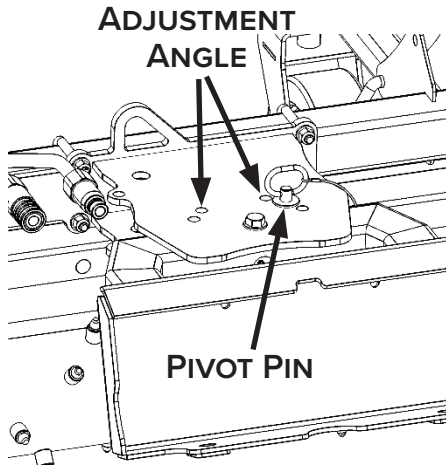

Figure 4
3. Remove the lynch pin and pivot pin [Figure 4].